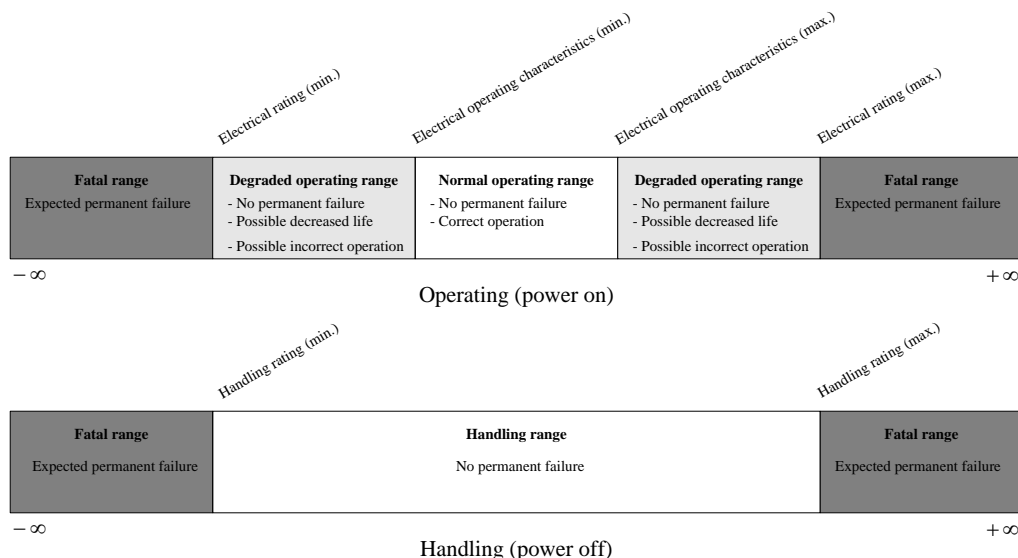

Figure 3. Relationship between ratings and operating characteristics
- To assure chip reliable operation, reserve enough margin for chip electrical design. Figure 3 shows the relationship between electrical ratings and electrical operating characteristics for correct chip operation.